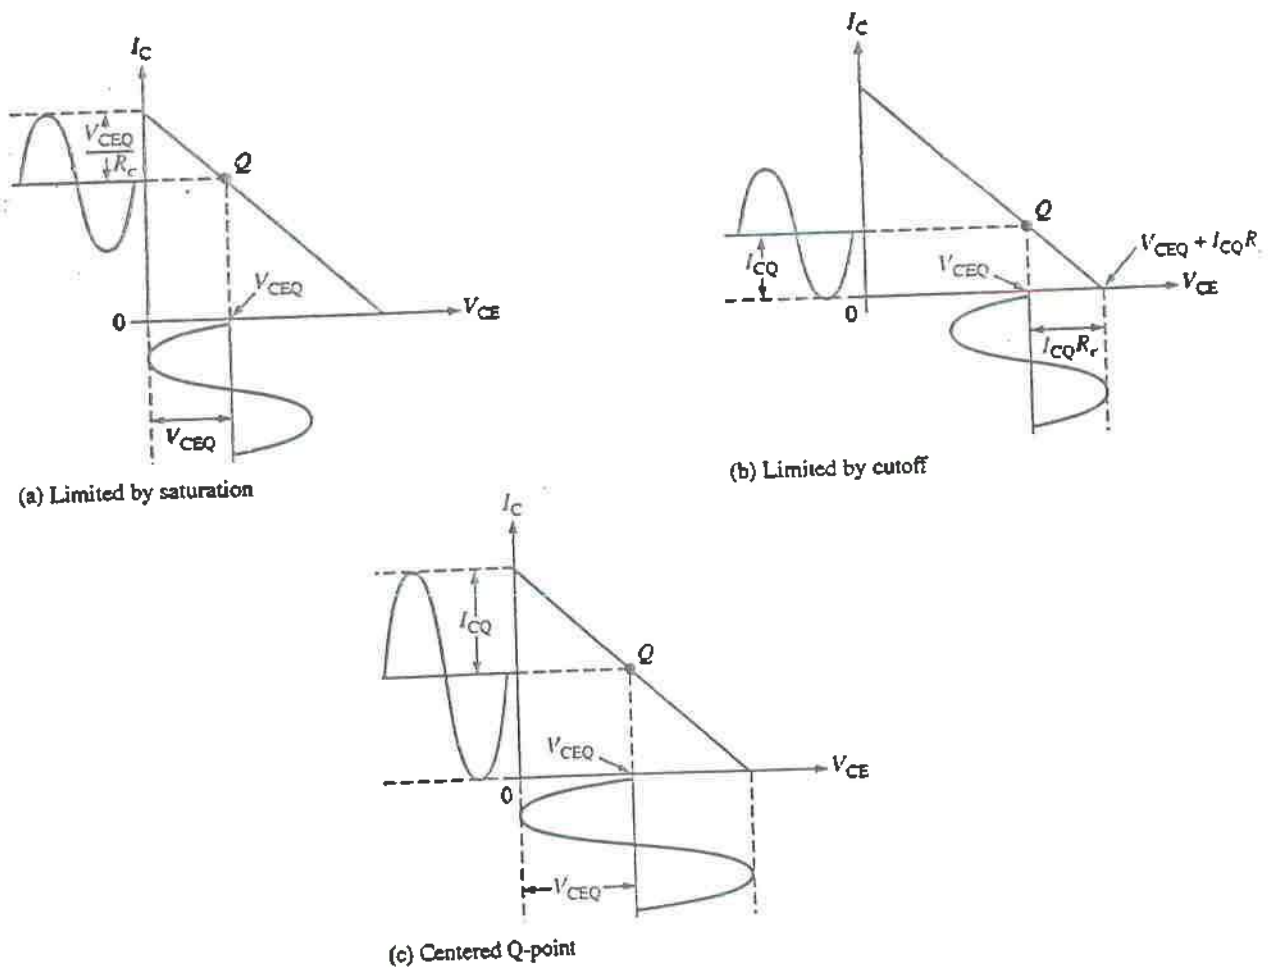

FIGURE 7-15 AC load line operation showing limitations of output voltage swings.
**Q-Point Closer to Saturation** When the Q-point is closer to saturation, the maximum collector-to-emitter voltage swing is  $V_{CEQ}$ , and the maximum collector current swing is  $V_{CEQ}/R_c$ , as shown in Figure 7-15(a). The ac output power is, therefore,
**Q-Point Closer to Cutoff** When the Q-point is closer to cutoff, the maximum collector current swing is  $I_{CQ}$ , and the collector-to-emitter voltage swing is  $I_{CQ}R_c$ , as shown in Figure 7-15(b). The ac output power is, therefore,
**Q-Point Centered** When the Q-point is centered, the maximum collector current swing is  $I_{CQ}$ , and the maximum collector-to-emitter voltage swing is  $V_{CEQ}$ , as shown in Figure 7-15(c). The ac output power is, therefore,
The maximum power to the load in a class A amplifier occurs when the Q-point is centered, as you can see in Figure 7-15(c). The maximum peak load voltage equals  $V_{CEQ}$ , assuming a negligible voltage drop across the output coupling capacitor.